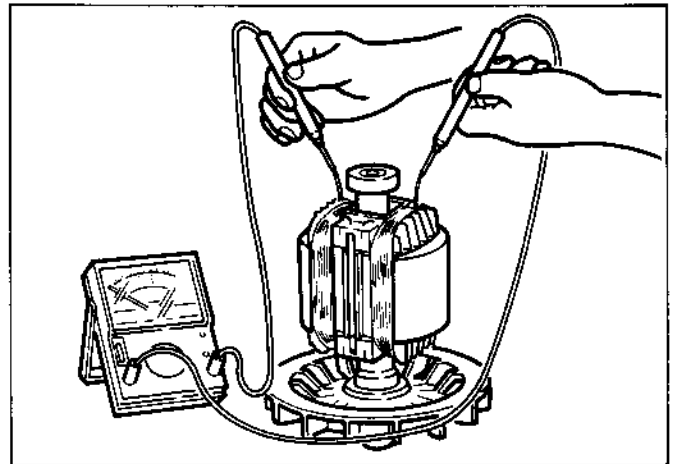

Fig. 11-3
(1) CHECKING FIELD COIL
- Measure the resistance of field coil with a circuit tester. (See Fig. 11-3.)